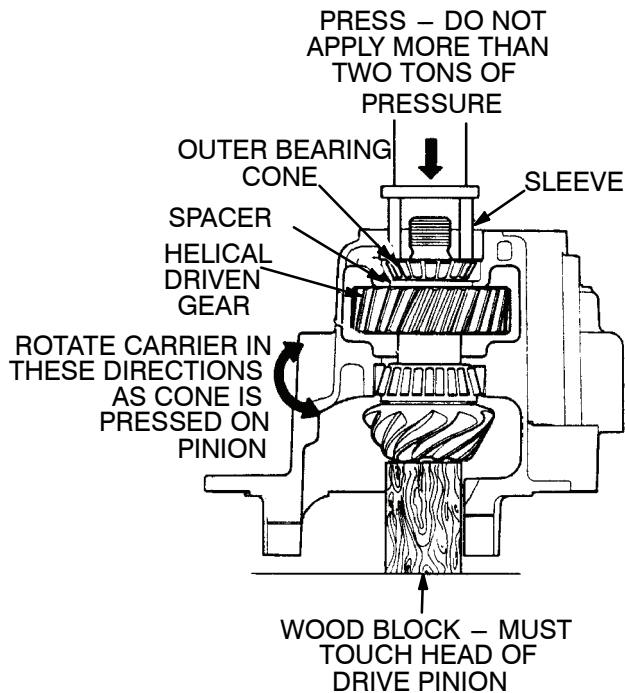

Figure 57.
- (9) Put the outer bearing cone on the drive pinion shaft. Put a sleeve on the top (inner race) of the outer bearing cone and apply press pressure of approximately two (2) tons. As pressure is applied, rotate carrier in both directions to properly seat bearings. Refer to Figure 57.